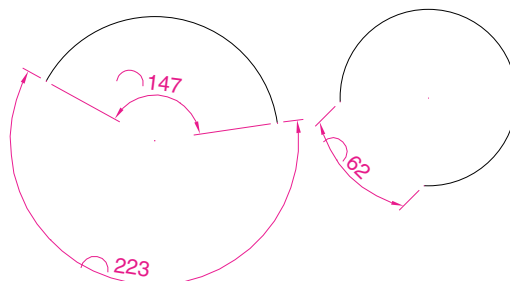

Fig. 6.18 Examples – **Arc Length** tool
The Arc Length tool (Fig. 6.18)
1. Construct two arcs of different sizes as in Fig. 6.18.
Examples on two arcs are shown in Fig. 6.18.